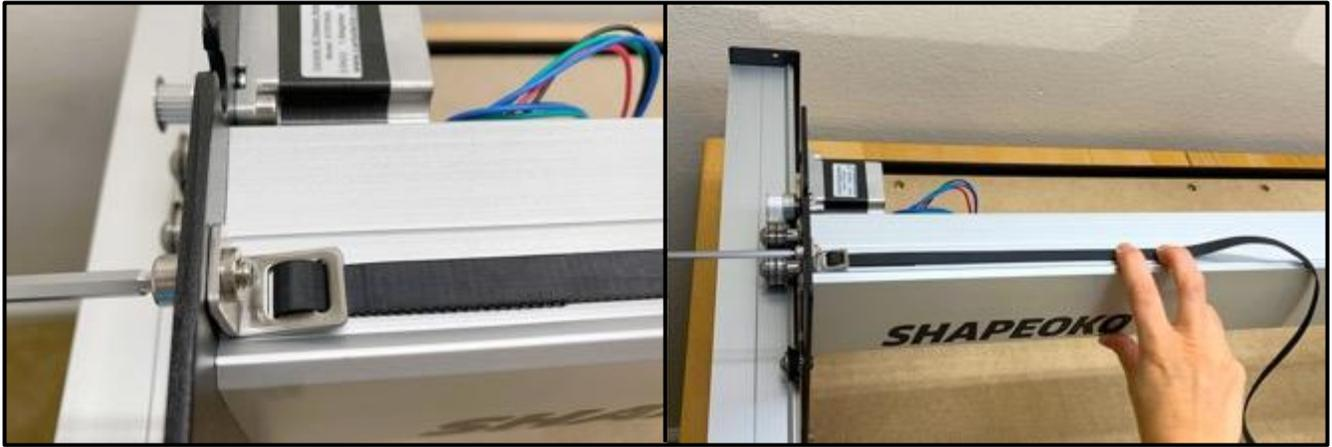

Figure 5-5
2. Set the belt clip on top of the X-rail next to the Y1-carriage. The belt should lay flat, teeth down, and extend along the X-rail towards the Z-Plus. Ensure the teeth of the bottom 2-inches of belt interlock with the top. See *Figure 5-5*.
3. Use the 4mm hex key and one (1) M5x10mm socket head cap screw to attach the belt clip to the Y1-carriage. Insert the screw from the **OUTSIDE** and tighten. See *Figure 5-5*.